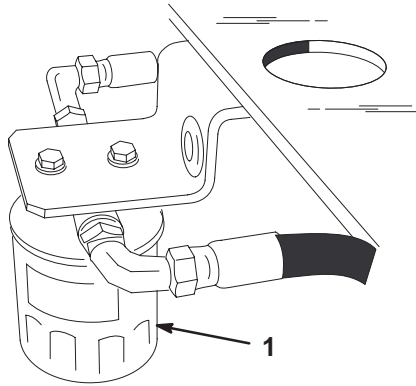

Figure 38
- Place drain pan under filter, remove the old filter and wipe the filter adapter gasket surface clean (Fig. 38).